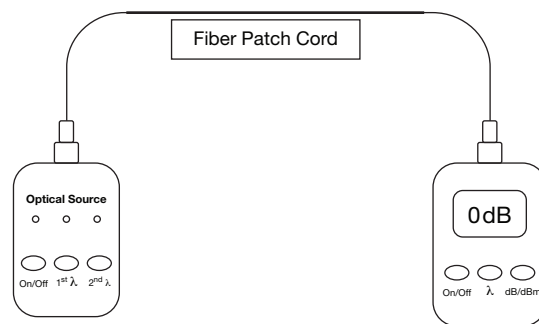

Figure 4
4. Zero the power meter. Refer to Figure 4.